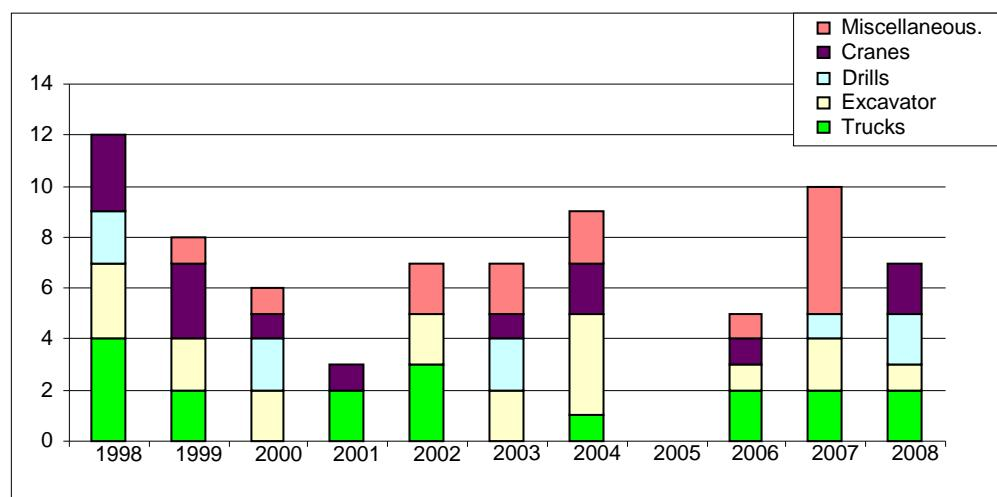

Figure 1 Graph showing number of powerline contacts reported to Resources Safety between 1998 and 2008
- excavators cause the highest number of powerline contacts (Figure 1).